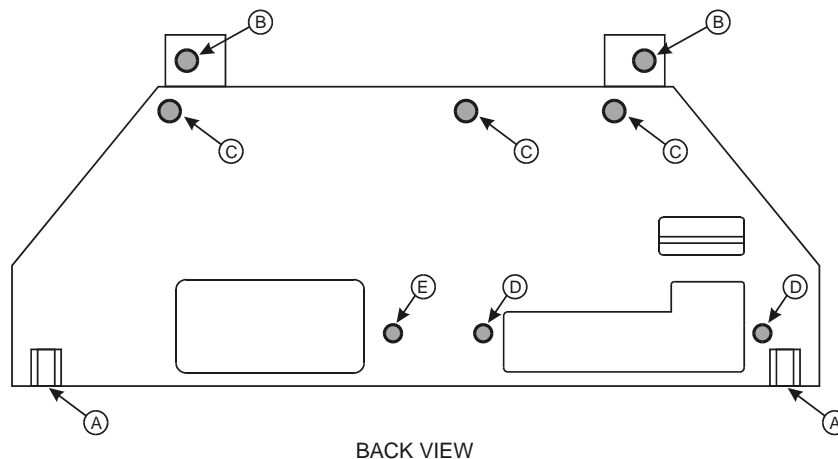

Figure 5-1 Back Cover Removal
3. Remove the two screws and lockwashers (A) from the bottom of the back cover. (See figure 5-1.)
4. Remove the two screws (B) and lockwashers from the display screen hinges.
5. Remove the three screws (C) and lockwashers from the top of the back cover.
6. Remove the two small flathead screws (D) from each side of the accessories plugs.
7. Remove the small flathead screw (E) from the power switch/fuse assembly.
6. Attach the two screws (A) to the bottom of the back cover. (See figure 5-1.)
7. Attach the two screws and lockwashers (B) and lockwashers to the display screen hinges.
8. Attach the three screws (C) and lockwashers to the top of the back cover.
9. Attach the two small flathead screws (D) to each side of the accessories plugs.
10. Attach the small screw (E) to the power switch/fuse assembly.